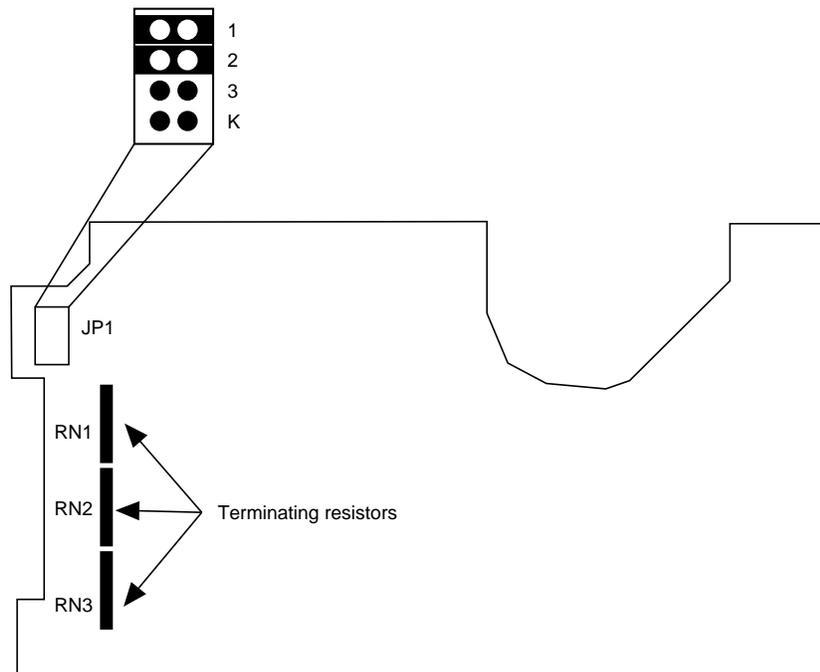

Figure 10-7. Jumper Settings for SCSI Cartridge Tape Drive
1. See Figure 10-7 to set the jumpers for the SCSI cartridge tape drive.
7. On the top of the MAP/100C, remove the 2 screws securing the distribution panel cover, remove the cover and set it aside (Figure 10-7).